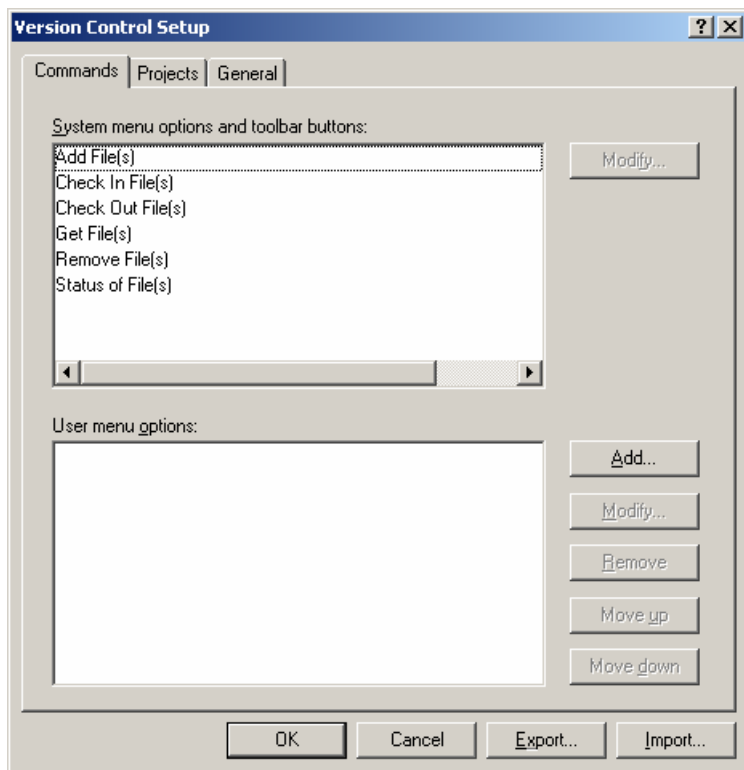
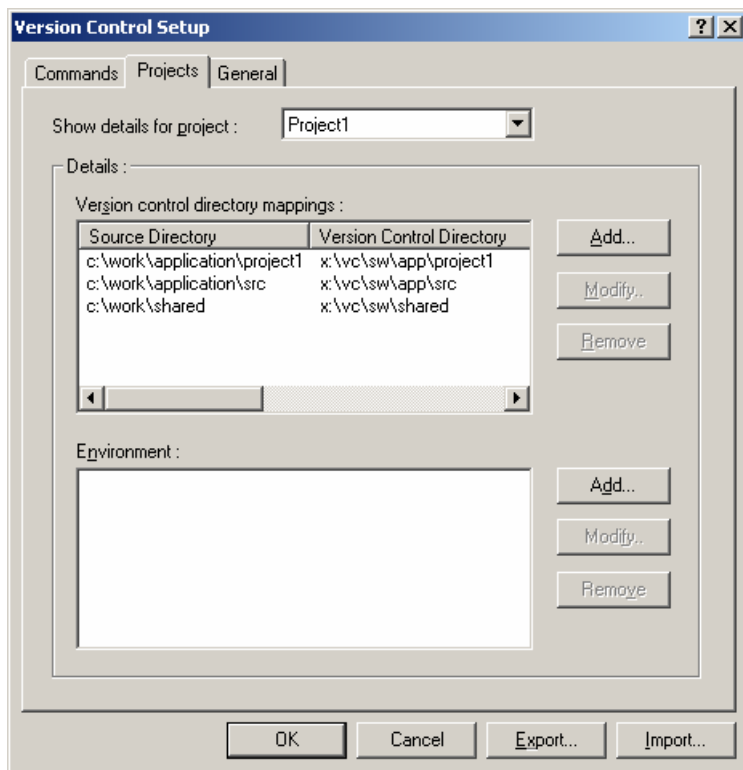

Figure 8.1: Version Control Setup Dialog Commands Tab
Figure 8.7: Version Control Setup Dialog Projects Tab
The custom version control support allows you the most flexibility in specifying how a version control system is to be used. To configure it, select [**Version Control->Configure...**]. The “Version Control Setup” dialog will be displayed (figure 8.1).
1. Select **[Version Control->Configure...]**. The dialog shown in figure 8.1 will be displayed.
1. Select [Version Control->Configure...]. The dialog shown in figure 8.1 will be displayed.
1. Select [**Version Control->Configure...**]. The dialog shown in figure 8.1 will be displayed.
However, when executed, this command can only ever get the file MAIN.C. To resolve this problem, HEW uses a system of placeholders and directory mappings. The latter tell the HEW which "working" directories (i.e. where source files are being worked on) map to which "controlled" directories (i.e. where the source files are stored in the version control system). Mappings between these two directory systems can be specified via the "Projects" tab of the "Version Control Setup" dialog (figure 8.7).
1. Select [Version Control->Configure...]. The dialog shown in figure 8.1 will be displayed. Select the “Projects” tab, and the dialog shown in figure 8.7 will be displayed.
1. Select **[Version Control->Configure...]**. The dialog shown in figure 8.1 will be displayed. Select the “Projects” tab, the dialog shown in figure 8.7 will be displayed.
Select the “Projects” tab of the “Version Control Setup” dialog to view the current settings (figure 8.7).